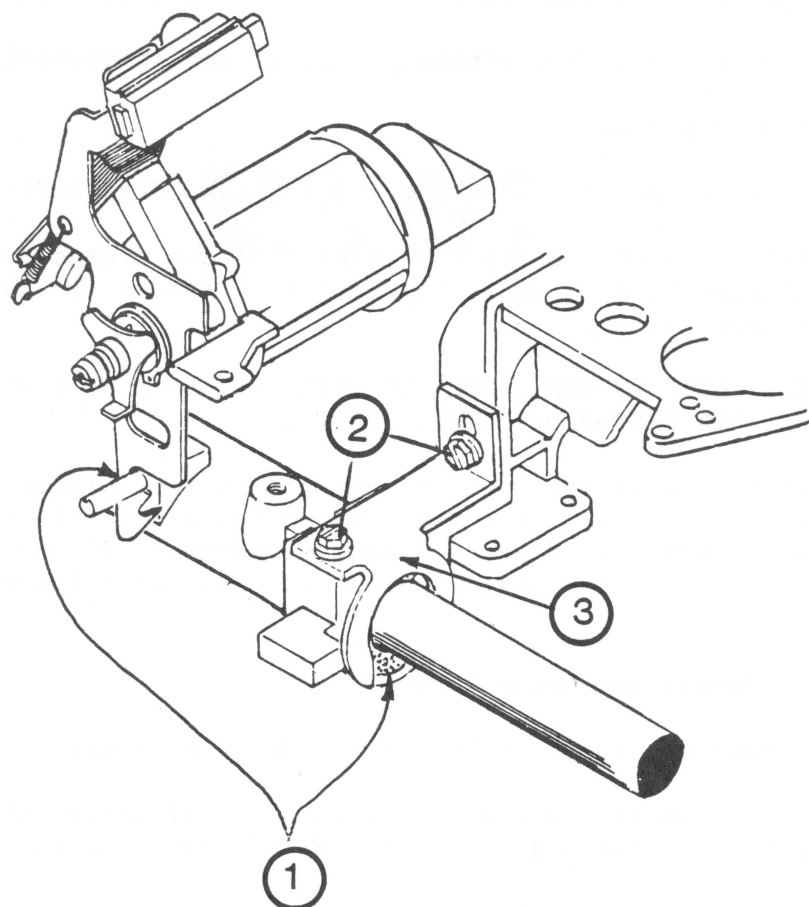

FIGURE 4
There are two felt wipers on the rear carriage guide shaft (see Figure 4, #1). Once a year, or every 2000 hours:
- b) Use a 3/16 inch wrench and/or a small screwdriver to remove the two screws (Figure 4, #2) on the retaining clamp (Figure 4, #3) on each side of the carriage assembly (Figure 4 shows only one side). Inspect the felt wiper. If very worn or dirty, remove and replace it. Otherwise, go on to step c.